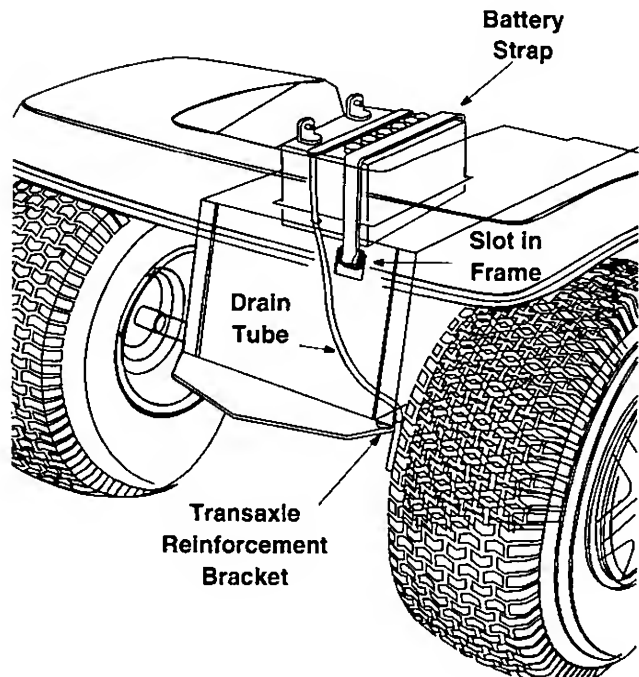

Figure 9
6. Secure battery by hooking battery strap into slot in rear frame, under the fender. See Figure 9.
7. Insert the drain tube through the hole in the transaxle reinforcement bracket located on the **right** side of the unit. See Figure 9. Be certain drain tube is routed away from the wheel rim.